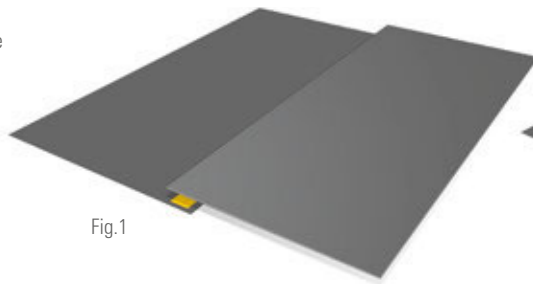

Fig.1
2. Position Plantex® Performance Tape along the border on the lower section of fabric (Fig. 1).
3. Then apply the upper fabric section to the lower fabric section by covering the taped area completely (Fig.1).